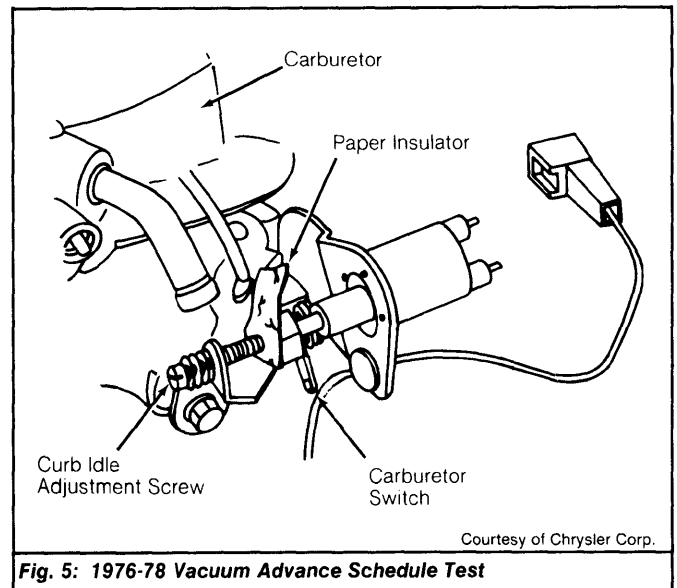

Fig. 5: 1976-78 Vacuum Advance Schedule Test
3) Place transmission in Neutral and apply parking brake. Place a thin insulator (piece of paper) between carburetor switch and curb idle adjustment screw. See Fig. 5. With curb idle screw not touching carburetor switch, make sure that fast idle cam is not on high step or binding.